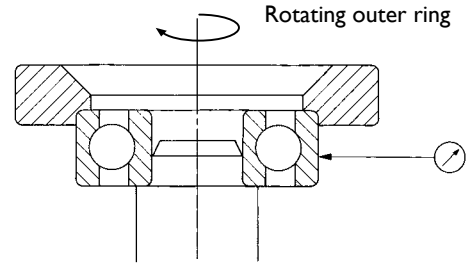

Figure 2-8
- Radial Runout of Outer Ring (K_{ea}) Figure 2-8